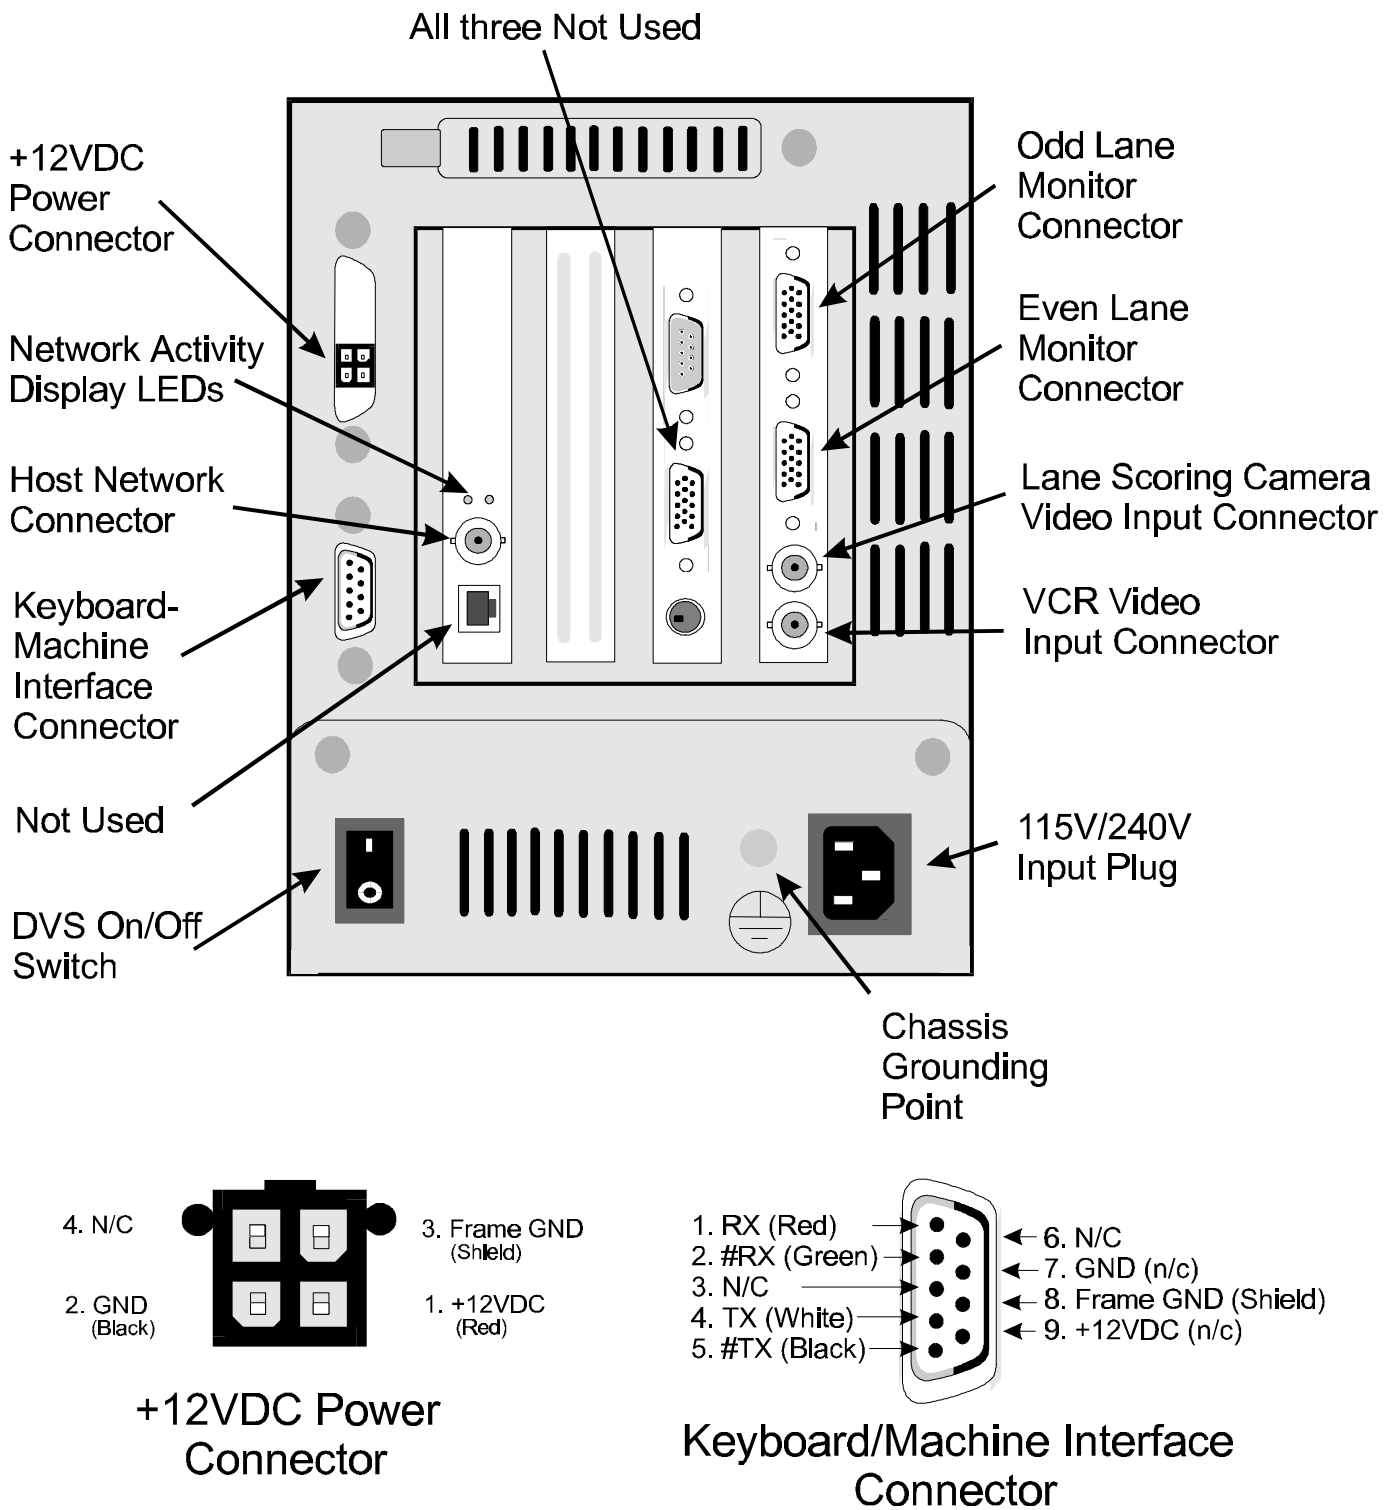

figure 2. Rear of DVS Chassis
The DVS chassis is the main lane electronics and therefore has a central role in the operation of the lane pair. The chassis enclosure is a 4-slot MicroBOX Industrial Personal Computer Chassis. It contains its own 65W switch mode power supply (85-132VAC or 180-264VAC 50/60Hz) and Expansion Slots. The chassis receives its input power from the outlet located below it in the Display Unit. There is an On/Off switch on the chassis which turns the power off to the electronics. **THIS SWITCH DOES NOT TURN OFF THE POWER TO THE SVGA MONITORS IN THE DISPLAY UNIT** (refer following section Safety Precautions). The rear of the DVS Chassis has a number of input and output connectors (see figure 2).
3. Remove the connection to +12VDC Power Connector. (see figure 2)
The two SVGA Display Monitors located in the Display Unit at each lane are either Wells Gardner Model 27K3003 or Nanao MS-2931A. They have a industry standard superVGA input which is connected to the DVS Chassis (see figure 2). They receive the same signal that travel between a standard Computer & Monitor. They have a 90-260VAC 50/60Hz voltage input and are connected to the Outlet located under the DVS Chassis inside the centre access door in the rear of the Display Units. There are a number of adjustments on the SVGA monitors that allow the scoring grids to be widened, positioned within the screen and brightened, Refer to manufacturers Service and Safety Instructions for more details relating to monitor adjustments. The monitors are a high voltage device and as such should only be serviced by Authorised Personnel. They are accessed via an individual cover at the rear of the Display Unit, which should never be removed with the monitors operating (refer following section Safety Precautions).